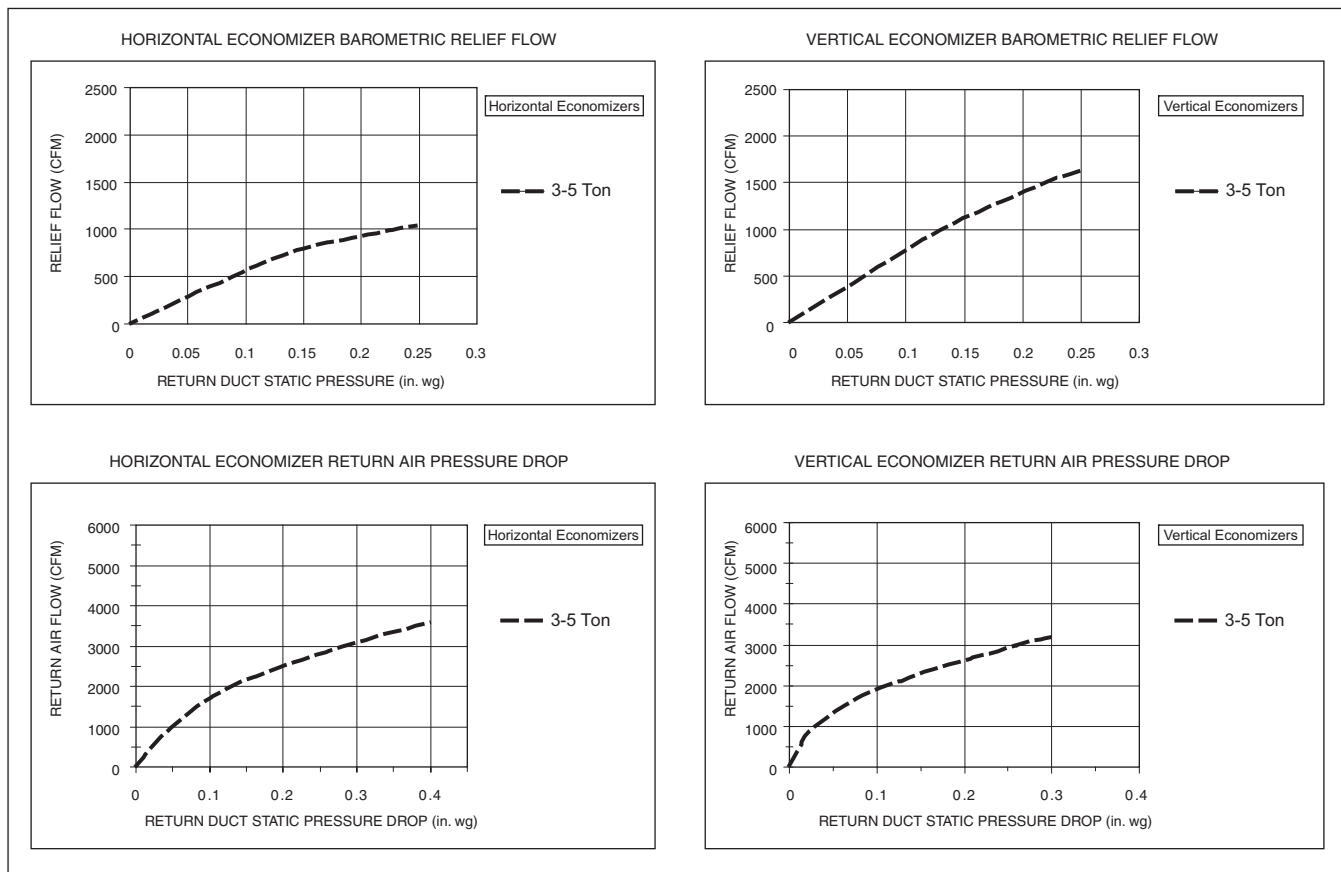

Fig. 70 — Outdoor-Air Damper Leakage
The standard controller is shipped from the factory configured for outdoor dry bulb changeover control. For this control mode, the outdoor temperature is compared to a selectable set point on the OAT sensor. If the outdoor air temperature is above the set point, the EconoMiSer IV will adjust the outdoor air dampers to minimum position. If the outdoor air temperature is below the set point, the position of the outdoor air dampers will be controlled to provide free cooling using outdoor air. When in this mode, the Free Cool LED next to the outdoor enthalpy set point (ABCD) potentiometer will be on. The changeover temperature set point is controlled by the DIP switches on the sensor. See Fig. 69 for the switch positions corresponding to the temperature changeover values. The ABCD potentiometer on the controller should be turned fully clockwise (CW) to the “D” position. See Fig. 70 for damper leakage.